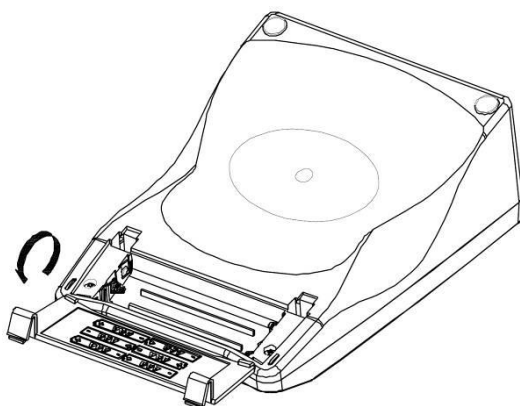

Figure 1
1. Use two hands to flip the buckles and battery cover to expose the battery compartment. (Figure 1)